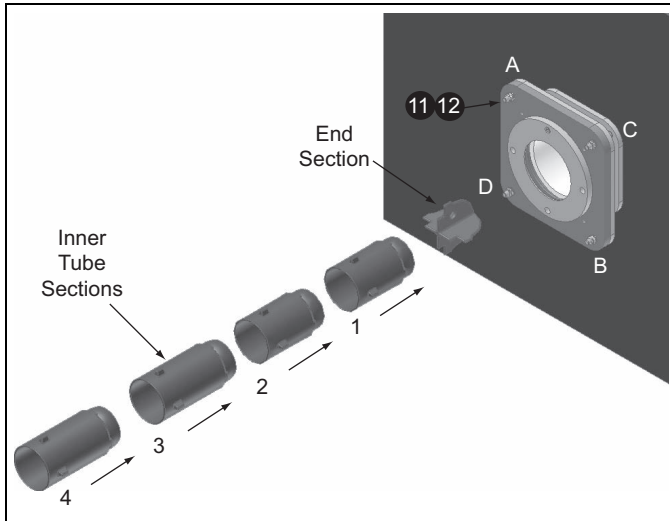

Figure 3.13
5. Secure the Support Flange to the Mounting Extension using M12 nuts and washers (see Figure 3.13) (Items 11 and 12) as follows:
- Using a hand wrench snug all bolts on the following order - A,B,C,D (see Figure 3.13)
- Install inner ceramic sections. Refer to Table 3.1 for the appropriate quantities of short (185 mm) and long (235 mm) inner tube sections. Starting with the end section, add the inner tube sections one into the other and push them to the end of the outer tube. Make sure the inner tube sections are bottomed in the outer tube. If they are not fully inserted, the burner will not operate properly and may become damaged. See Figure 3.13.